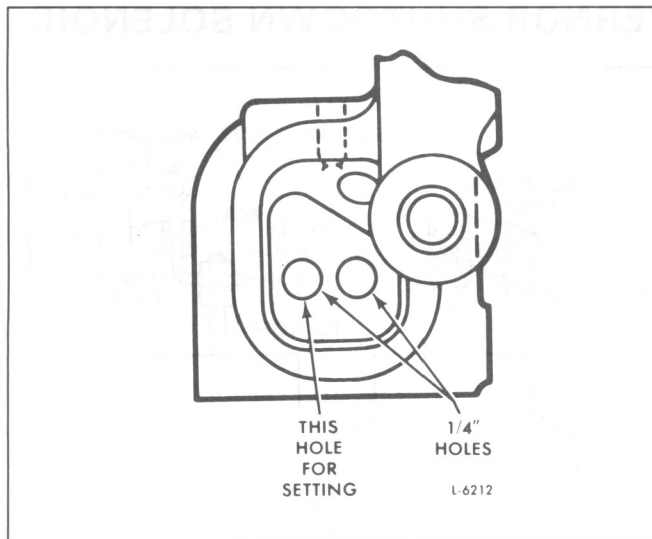

Fig. 5 – Throttle Delay with Multiple Fill Holes
5. Insert pin gage J 25558 with the "go" (green .069") end in the cylinder fill hole. If the throttle delay housing has multiple holes, use the hole indicated in Fig. 5.